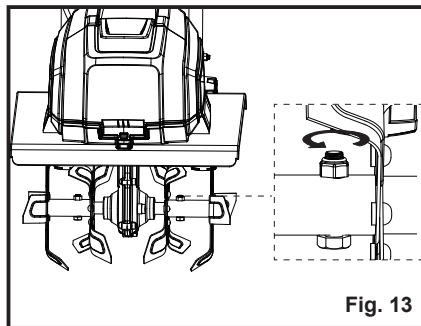

Fig. 13
1. To remove the tine blades, remove the bolts and nuts with a wrench (Fig. 13).